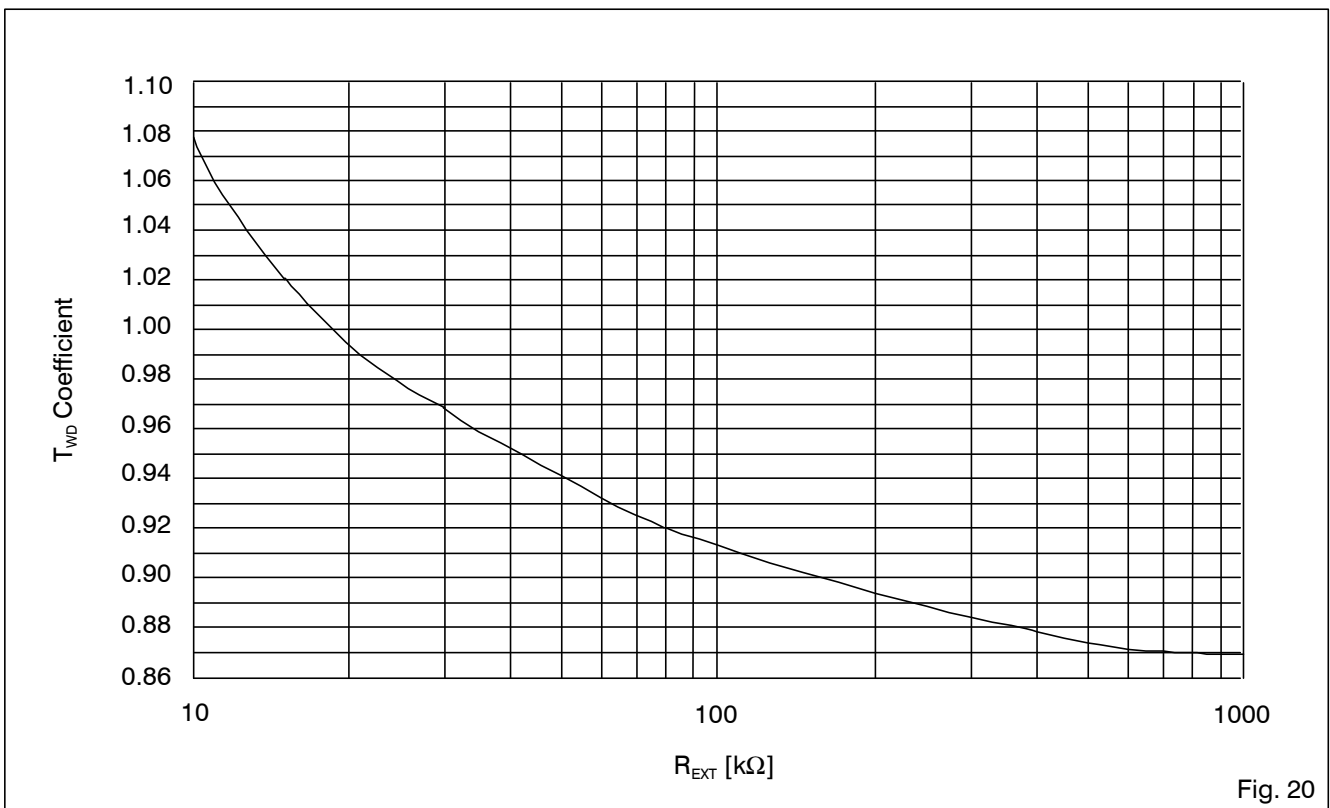
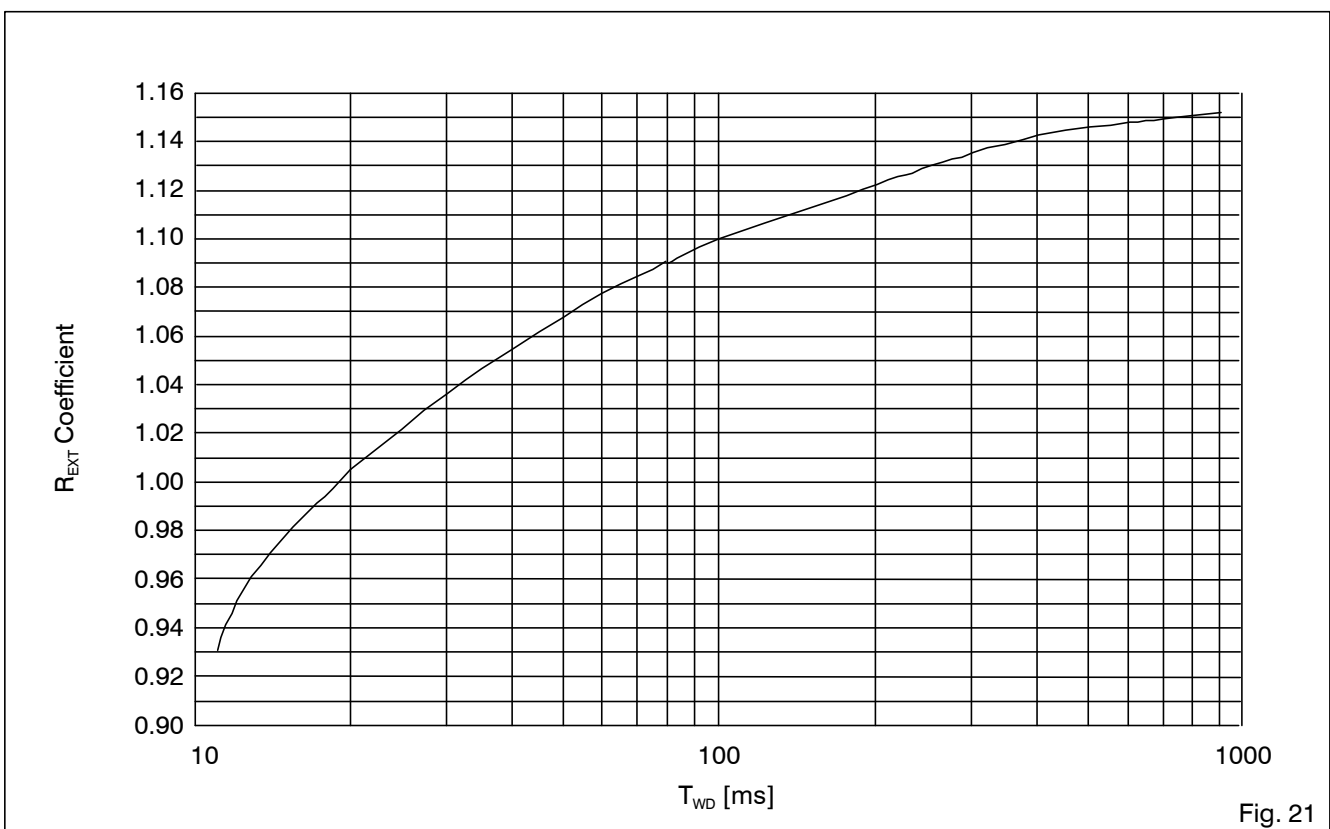

Fig. 20
Fig. 21
Related to curves (Fig. 11 to Fig. 21), especially Fig. 20 and Fig. 21, the relation between T_{WD} and R_{EXT} could easily be defined. Let us take an example describing the variations due to production and temperature:
2. Related to Fig. 21, the coefficient (T_{WD} to R_{EXT}) is 1.025 where R_{EXT} is in k Ω and T_{WD} in ms.